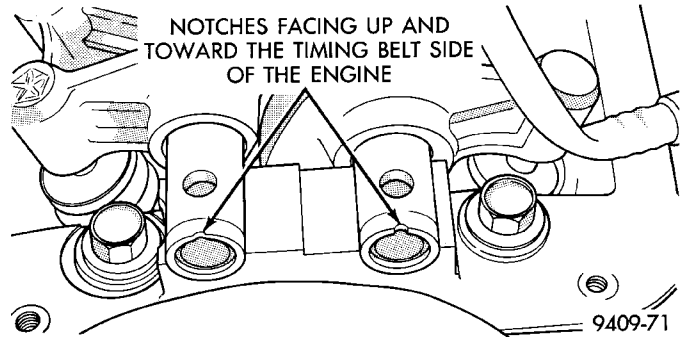

Fig. 27 Rocker Arm Shaft Notches
(1) Install rocker arm/hydraulic lash adjuster assembly making sure that adjusters are at least partially full of oil. This is indicated by little or no plunger travel when the lash adjuster is depressed. If there is excessive plunger travel. Place the rocker arm assembly into clean engine oil and pump the plunger until the lash adjuster travel is taken up. If travel is not reduced, replace the assembly. Hydraulic lash adjuster and rocker arm are serviced as an assembly.
(2) Install rocker arm and shaft assemblies with NOTCH in the rocker arm shafts pointing up and toward the timing belt side of the engine (Fig. 27). Install the retainers in their original positions on the exhaust and intake shafts (Fig. 25).